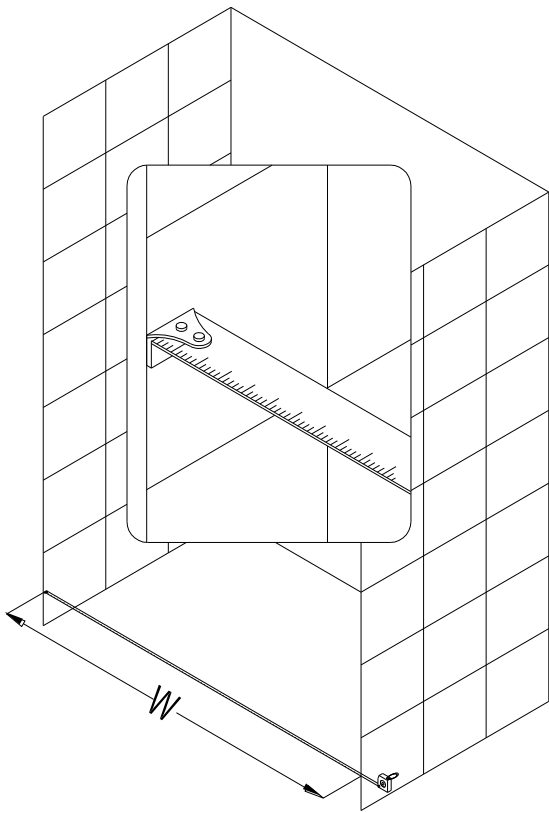

Fig. 1
1. Measure the distance between two finished walls (**W**) for your shower enclosure. See fig.1 for details.